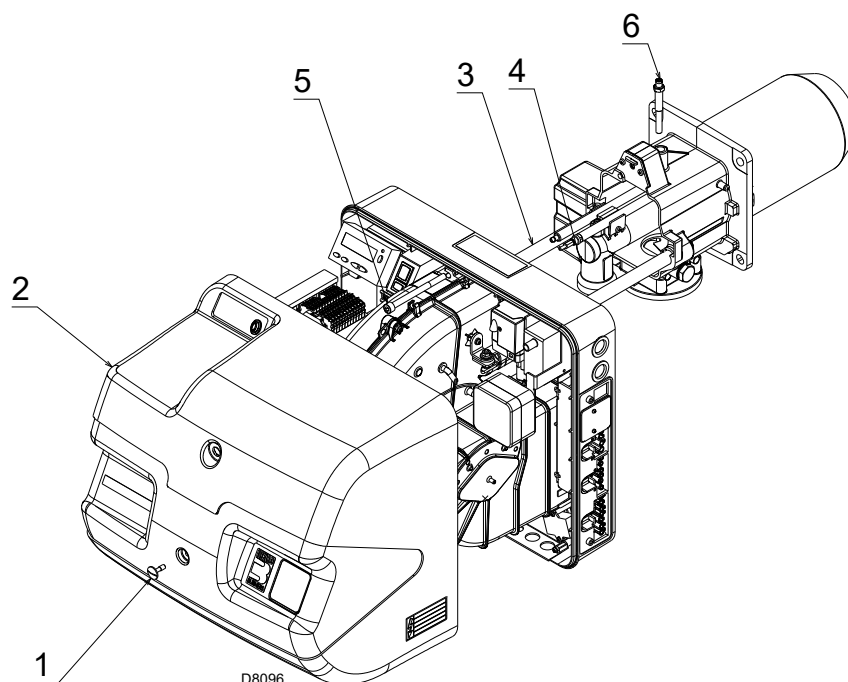

Fig. 39
- Loosen the screw 1)(Fig. 39) and remove the cover 2).
- Remove the screw 5)(Fig. 39) and pull back the burner on the guides 3) by about 100 mm.
- Tighten the screws 5)(Fig. 39) and carefully pull the probe and electrode cables outwards until they are slightly taut.